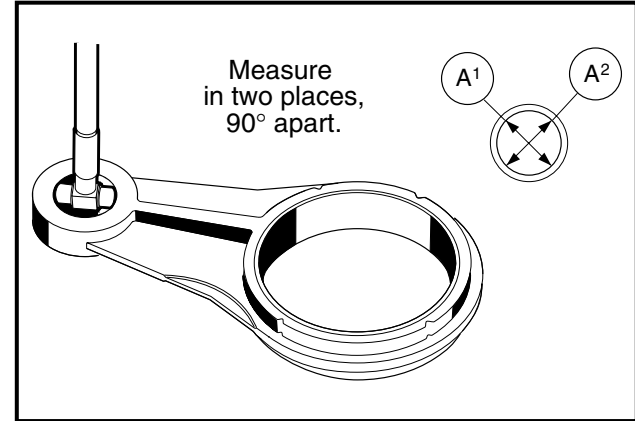
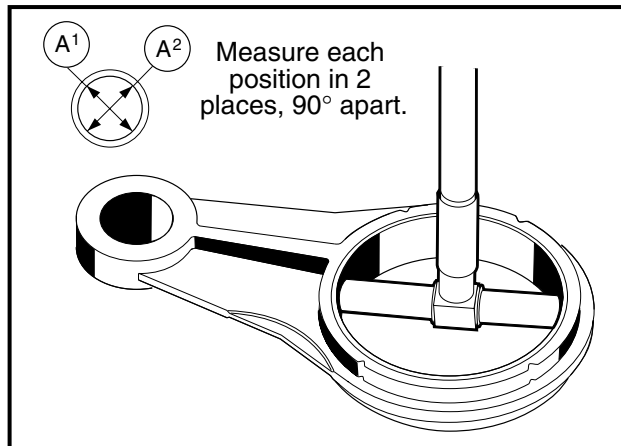

Figure 13-79 Measure Link Rod Small Bore I.D.
Figure 13-80 Measure Link Rod Large Bore I.D.
1. Clean and inspect the link rod (1) bearing surfaces. If the bearing surface of the small end is scored or damaged, replace the link rod. If the large end bearing is scored or damaged, the link rod must be replaced (**Figure 13-79, Page 13-38 and Figure 13-80, Page 13-38**).
- 1.2. If the inside diameter of the small end is greater than 0.4746 inch (12.057 mm), replace the link rod (**Figure 13-79, Page 13-38**).
- 1.3. If the inside diameter of the large end is greater than 1.9726 inches (50.106 mm), replace the link rod (**Figure 13-80, Page 13-38**). See following NOTE.